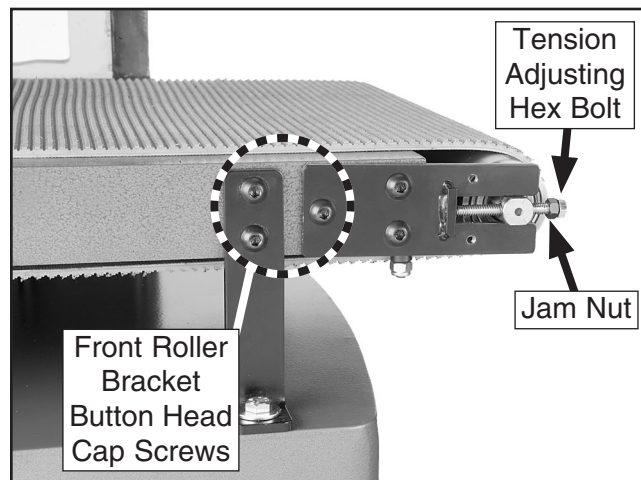

Figure 41. Conveyor belt tensioning fasteners and front roller bracket.
3. Use a 10mm wrench to loosen the conveyor adjusting jam nuts (left and right), then release the tension on the conveyor belt by loosening the tension adjusting hex bolts (see **Figure 41**).
4. Use a 5mm hex wrench to remove the three M8-1.25 x 18 button head cap screws securing the left front conveyor roller bracket (see **Figure 41**), then, while supporting the front conveyor roller assembly, remove the bracket.